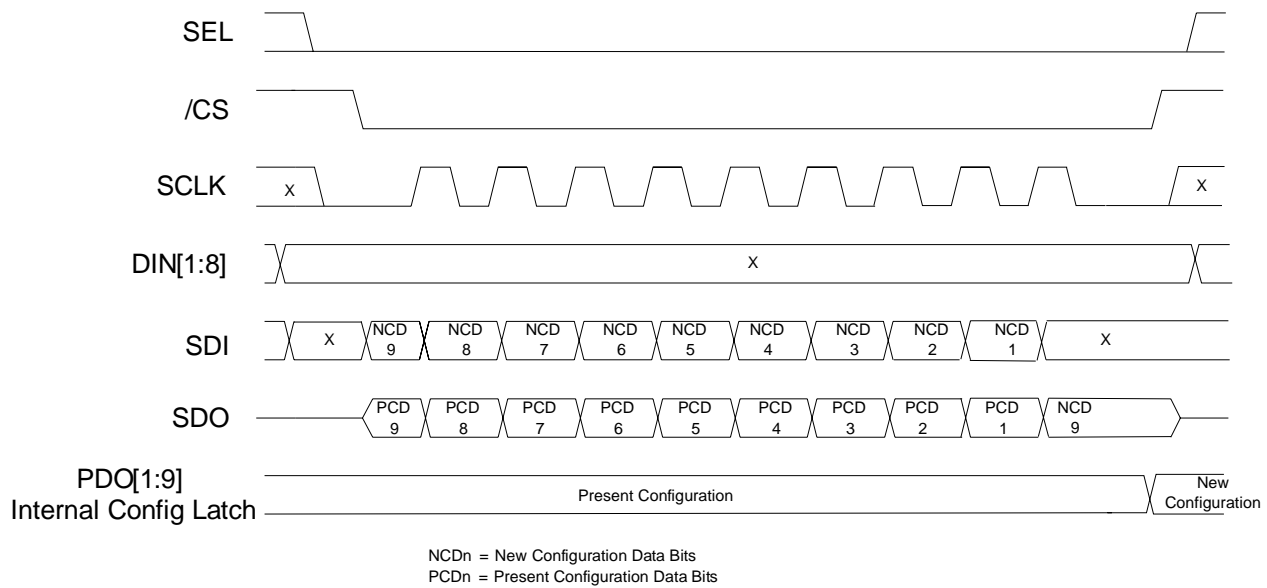

Figure 6 Write Configuration Register (9-bit cycle)
The 9-bit Configuration Register (CR) is a “serial-input, parallel-output with data latch” register that individually configures each AFE input as either GND/OPEN or 28V/OPEN format. (CR[n]: 0 sets DIN[n] to 28V/OPEN mode (pull-down); CR[n]: 1 sets DIN[n] to GND/OPEN mode (pull-up). The register is reset to 0's at Power Up and the AFE inputs are forced into high impedance mode until the CR is programmed (see Power Up Initialization). Bit 9 is used to enable or disable Built-in Test (see BIT Operation). The register is programmed via the serial data input as described in Figures 6– 8.